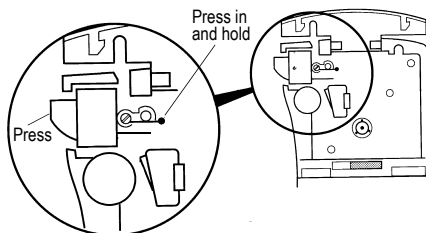

Figure 9
2. Place the tip of a ball-point pen or pencil on the L-shaped piece as shown in Figure 9, and press the piece down.